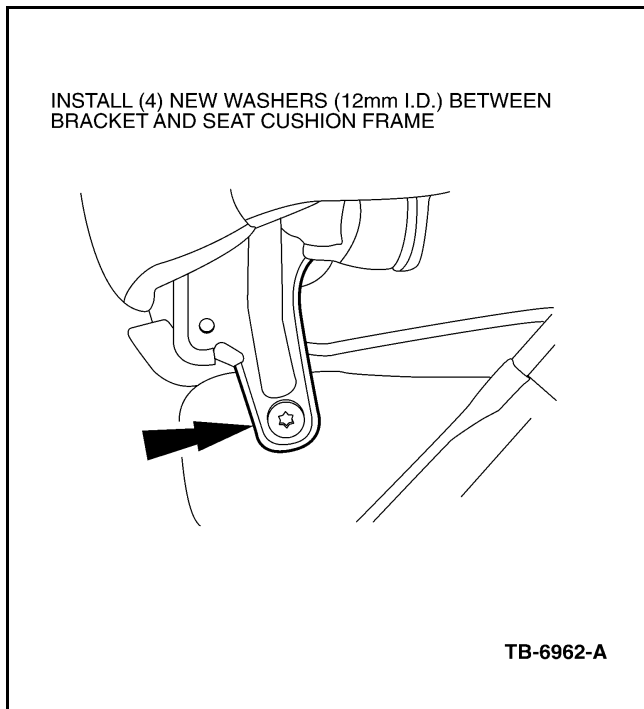

Figure 2 - Article 03-1-5
4. Install four (4) of the 1.5mm-thick washers (8 included in kit with a 12.1- 12.4mm I.D.) between the seat backrest bracket and the seat bottom cushion frame (Figure 2).